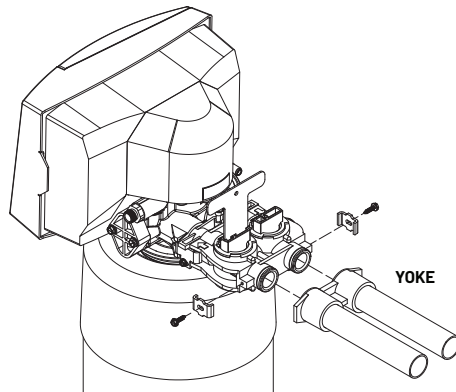

Figure 2
- Once the plumbing is complete, connect the yoke to the bypass valve (see figure 2).